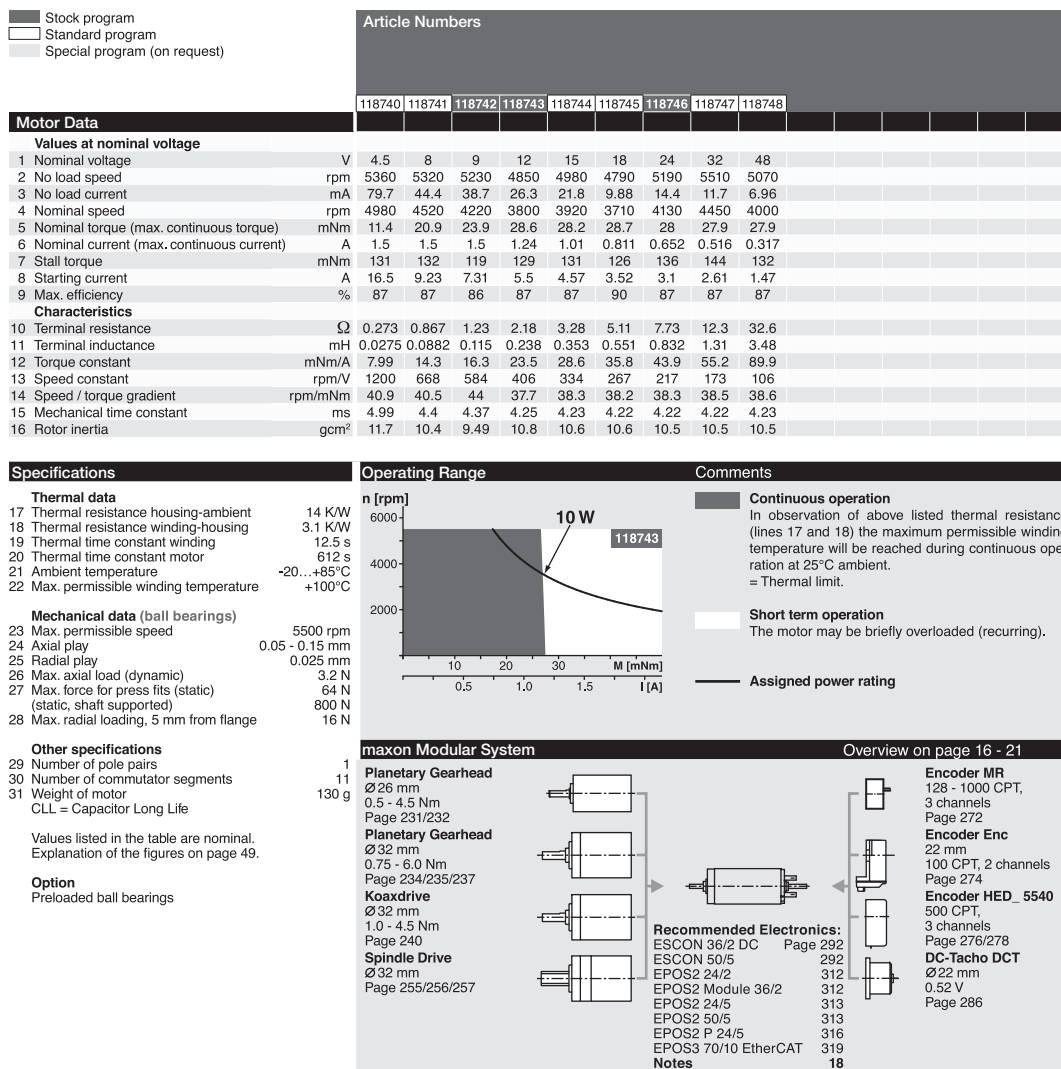

Figure 25.16
- o0020 2. Figure 25.16 gives the data sheet for the 10 W Maxon RE 25 motor. The columns correspond to different windings.
o0065 i. (Optional) Motor manufacturers may specify slightly different continuous and intermittent operating regions than the ones described in this chapter. For example, the limit of the continuous operating region is not quite vertical in the speed-torque plot of Figure 25.16. Come up with a possible explanation, perhaps using online resources.